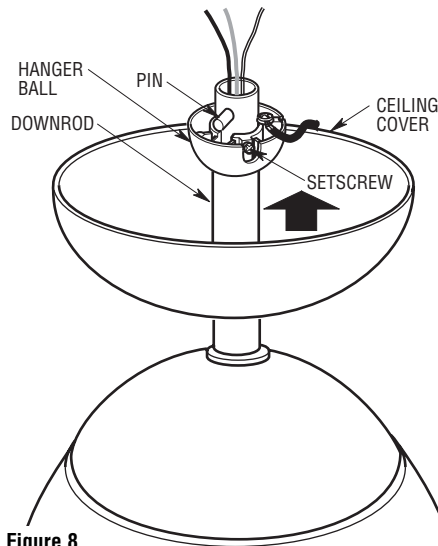

Figure 8
- 16. Reinstall the hanger ball (Figure 8) on the downrod as follows. Route the motor leads through the downrod. Position the pin through the two holes in the downrod and align the ball so the pin is captured in the groove in the top of the hanger ball. Pull the hanger ball up tight against the pin and securely tighten the setscrew in the hanger ball. A loose setscrew could create fan wobble.